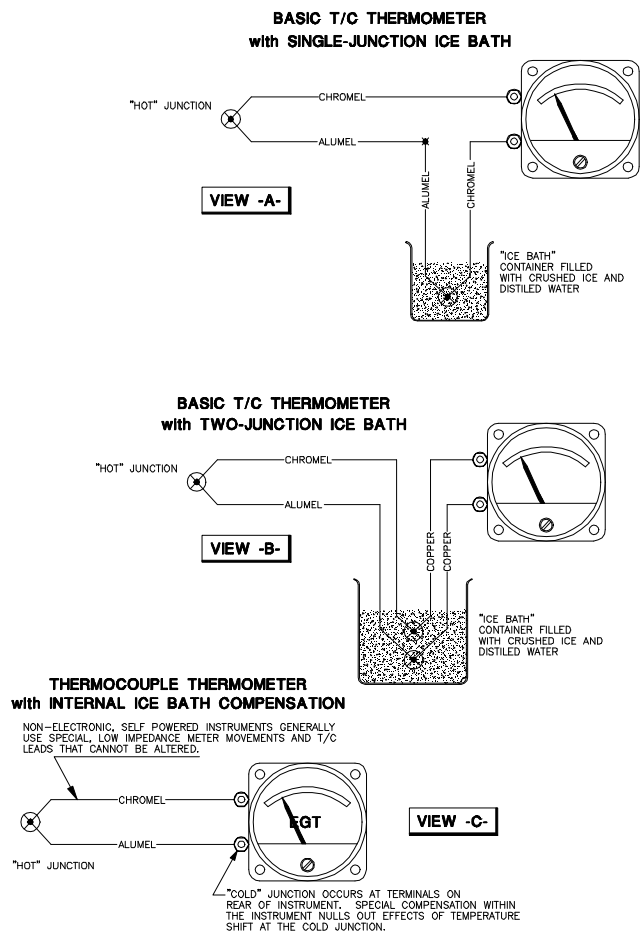
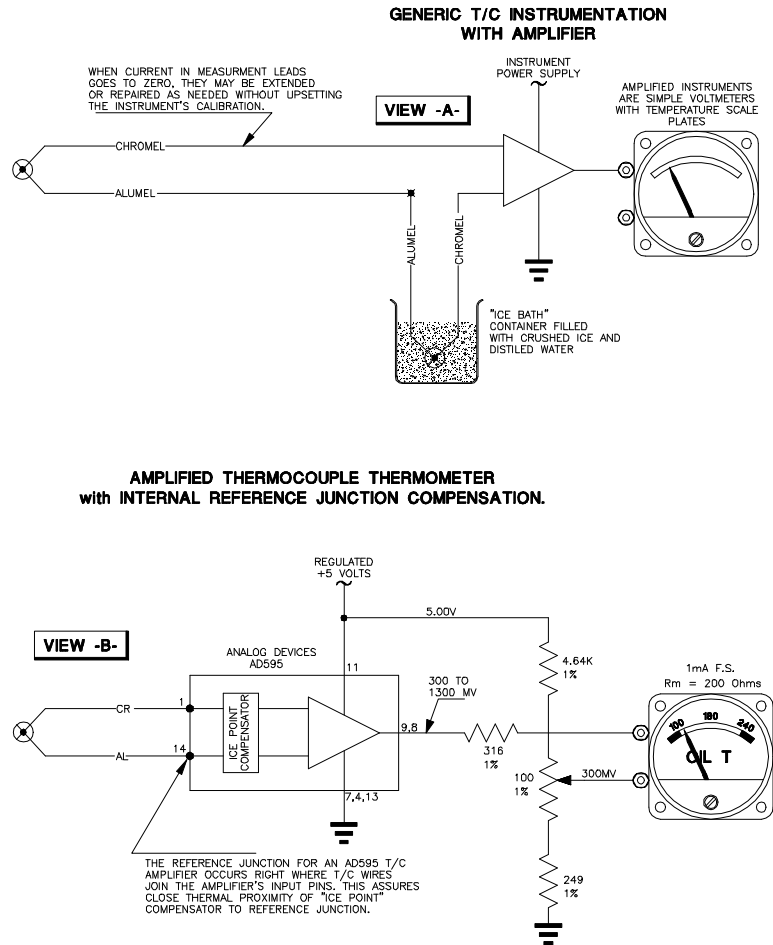

Figure 14-10. Generic T/C Thermometers and Various Cold Junction Techniques.
Figure 14-12. Amplified Thermocouple Thermometers.
In Figure 14-10, View -A-, I show two chromel-alumel thermocouples hooked in series with their alumel wires
While on the topic of high impedance instruments for thermocouples, I'll call your attention to Figure 14-12. In View -A- the hot-junction and reference-junction setup is similar to Figure 14-10, View -A- except: an electronic amplifier inserted between thermocouple wires and indicator. Some interesting things happen when you add an amplifier. (1) the indicator becomes a simple, much less expensive, voltmeter and (2) the current flowing in the thermocouple wires is for all practical purposes, zero. Length of thermocouple wire is no longer critical; insertion of a selector switch to manage many thermocouples is feasible. The last inconvenience to eliminate is the requirement for an ice bath
A company called Analog Devices builds integrated circuits for thermocouple signal conditioning. A sample circuit is shown in Figure 14-12, View -B-. The AD594 integrated circuit is designed to provide amplification, cold junction compensation and linearity compensation for type J thermocouple wire, the AD595 is used with type K wire. The device outputs a voltage of 10 millivolts per °C of thermocouple temperature. These circuits will work in the minus temperatures if two power supplies (+5 and -5 volts) are provided. Thermocouples work best above 0°C and are quite suited for oil, EGT and CHT measurements. For these parameters, temperatures of interest are well above 0°C. Therefore, a single +5 volt supply works fine for measurements between 10°C (.10 volts) and about 300°C (3.00 volts).
For example: Let us suppose you want to display oil temperature over the range of 30 to 130 degrees C (86 to 266 degrees F). The output from the AD595 and type K wire will be 300 to 1300 millivolts over that range (10 millivolts per degree C). So, instead of designing a differential voltmeter for 10-16 volts as in Chapter 7, we're going to design for 300 to 1300 millivolts. The values shown in Figure 14-12 are appropriate for a meter having a full scale current of 1
Several manufacturers build VTDs that look for all the world like a simple, zener diode voltage regulator. However, this "regulator" is very unstable - in fact, it drifts at a rate exactly equal to $10 \text{ mV}/^\circ\text{K}$ or $10 \text{ mV}/^\circ\text{R}$. Hmmm . . . we saw that 10 millivolt figure earlier. That's become a sort of industry standard for temperature measurement devices. Everyone builds parts calibrated for measuring C-size degrees, most also make F-size parts too. Figure 14-14 shows a basic thermometer using a calibrated VTD. The indicator is nothing more than a voltmeter with scale factor of 10 mV per degree times total degrees of span and an offset equal to 10 mV per degree times the lower end of scale temperature reading. The architectures for expanded scale voltmeters described in Figure 14-12 and Chapter 7 are applicable.
VTDs are **calibrated** devices as supplied from the factory. They are quite accurate, typically plus or minus 1.0°C or better. Their scale factor of $10 \text{ mV}/^\circ\text{C}$ is the same as the thermocouple amplifier shown in Figure 14-12, but they are somewhat simpler to use as illustrated in Figure 14-14. Their disadvantage is that their operating temperature ranges do not span as far as thermocouples. They are currently unable to measure exhaust gas temperatures; exhaust gases will remain an exclusive domain of thermocouples. Further, few solid state sensors are rated for temperatures experienced on cylinder heads. However, they do work well at low temperatures (below 0°C); actually better than thermocouples. Therefore, VTDs are well suited for OAT measurement. Their large inherent scale factor of 10°C overpowers parasitic thermocouples which exist in the interconnect wiring so leadwires between instrument and solid state temperature sensors require no special treatment.